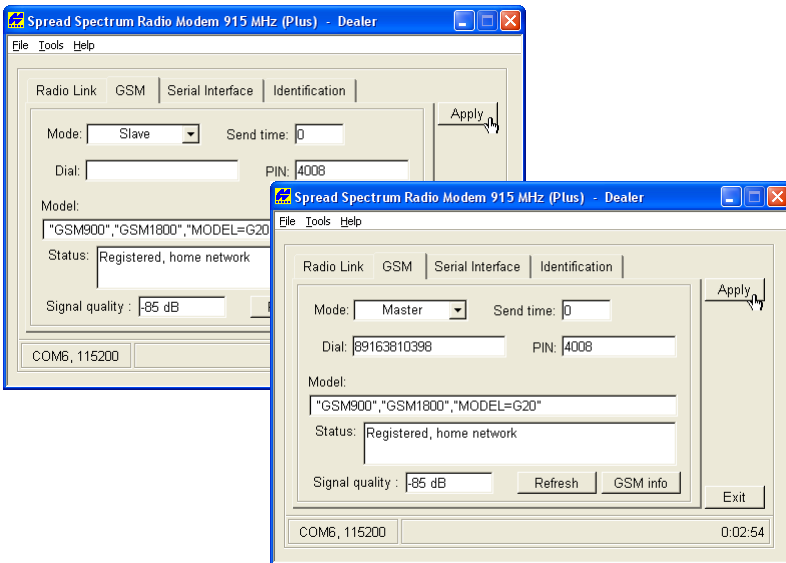

Figure 3-5. Select GSM Parameters for the Base and Rover
- On the *GSM* tab, set the following parameters (Table 3-4 on page 3-11), and click **Apply** (Figure 3-5 on page 3-12). If some fields display “N/A,” click **Refresh**.